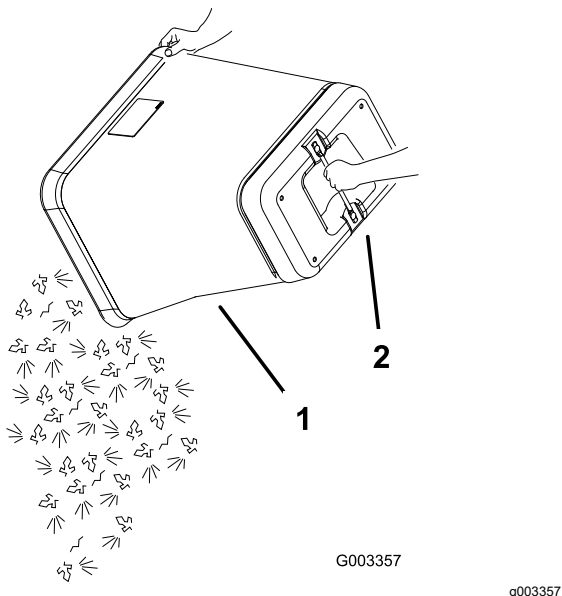

Figure 22
9. Grab the handle on the bottom of the bag and tip it over to empty the bag (Figure 22).